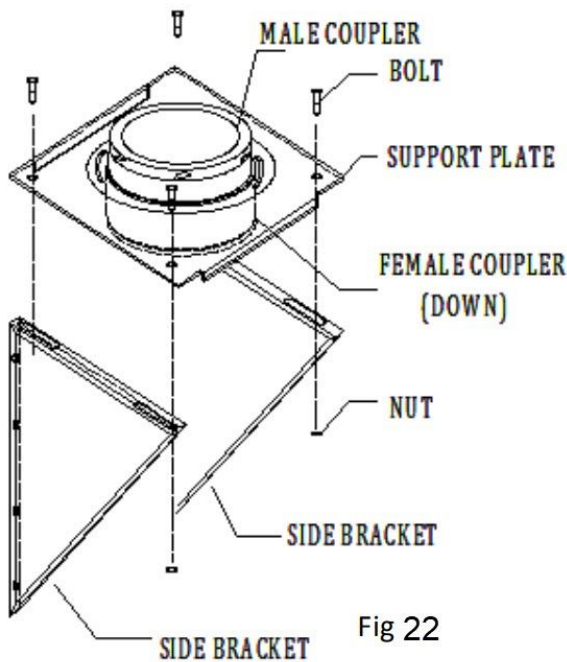

Fig 22
3. **Install Wall Thimble:** From the outside wall, put the outer half of the Wall Thimble in the opening. Center the outer half of the Wall Thimble. Secure the Wall Thimble to the outside wall with at least (4) 8-penny nails or (4) #8, 1-½" screws. For concrete walls a Wall Thimble is not required. The hole on the wall just needs to be just large enough for the chimney pipe to pass through. Install the inner half (with round plate) of the Wall Thimble in the inside wall surface, ensuring that the shield slides into the shield of the outer half. Secure the Wall Thimble to the inside wall with at least (4) 8-penny nails or (4) #8, 1-½" screws.
4. **Install Base Wall Support, Tee and Tee Cap:** Assemble the Base Wall Support Kit (Figure 22) by attaching the 2 triangle brackets to the support plate, with the hardware supplied (female coupler of the insulated coupling section on the Base Plate faces down, male end faces up). Install one 6" Chimney Section (or longer as required) to the horizontal branch of the insulated Tee. Lock securely into the Tee by twisting clockwise. A locking band (included) must be installed at this connection. Make sure the clamp is facing down to prevent any water from collecting in the locking band.